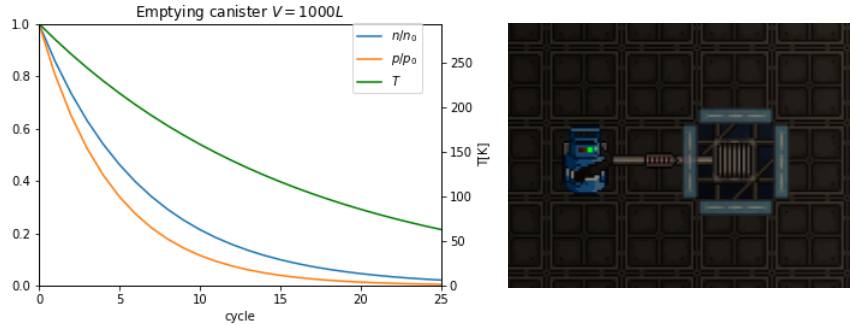

Figure 5: Removing gas from a canister
- Lowering the pressure in a gas container using a pump will now properly cool down the gas. The effects of the adiabatic expansion are shown in Figure 5. The pumps efficiency becomes lower with lower input pressure. The gas amount inside will decay exponentially, meaning that most of the gas can be removed quickly and the remaining trace amounts should not matter for any practical purposes. If you want to completely empty a container quickly you will have to connect it to space.